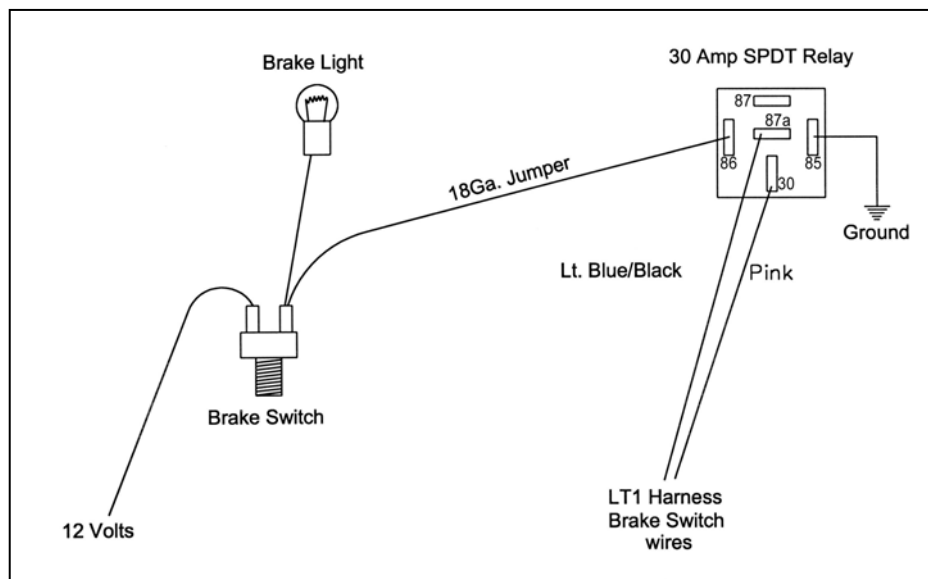

FIGURE 6.3 Brake Switch Relay
- G.** If your vehicle has a pressure type brake switch, you may use a relay as shown in Figure 6.3. The relay must be a **SPDT Relay** and wired correctly or it could result in a dangerous situation with the vehicle. The torque **converter may not unlock**.